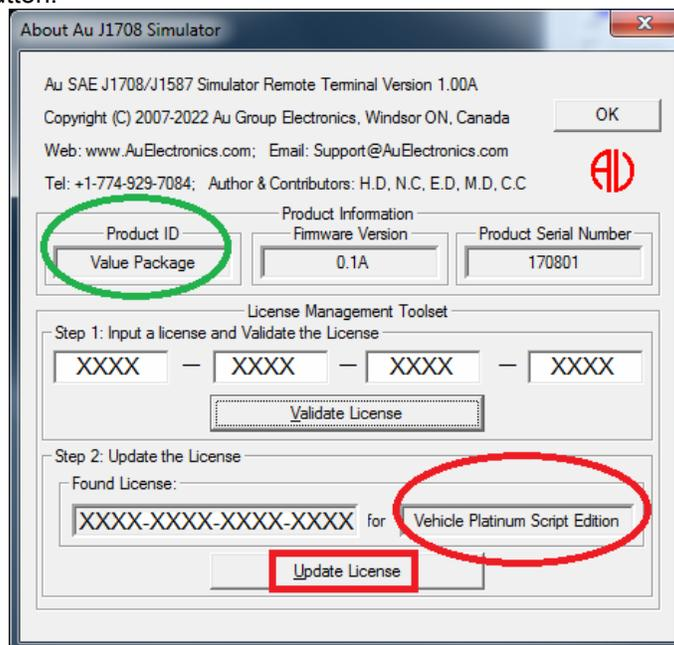

Figure 6-12
- 6. After a valid license is entered, Updated license information will display. As demonstrated below in Figure 6-12, J1708 Simulator Value Package edition will be upgraded to Vehicle Platinum Script Edition. Click "Update License" button.